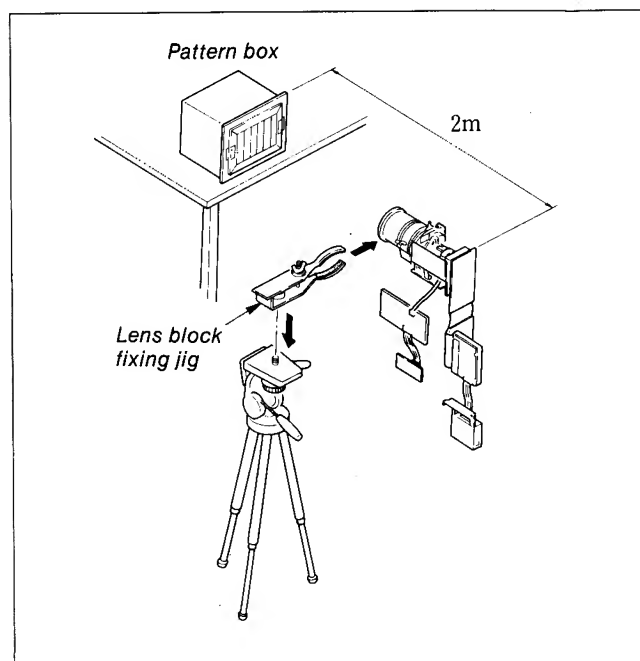

Fig. 7-2.
- 2) Place the Siemens star at a distance of 2m in the front of the lens datum level (see Fig. 7-2).